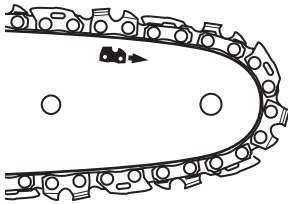

Fig. 9
- > Check the chain tension using one hand to lift the saw chain (4) against the weight of the product. The correct chain tension is achieved when the saw chain can be lifted by approximately 2 - 4 mm from the guide bar (5) in the centre (Figs. 9, 10).